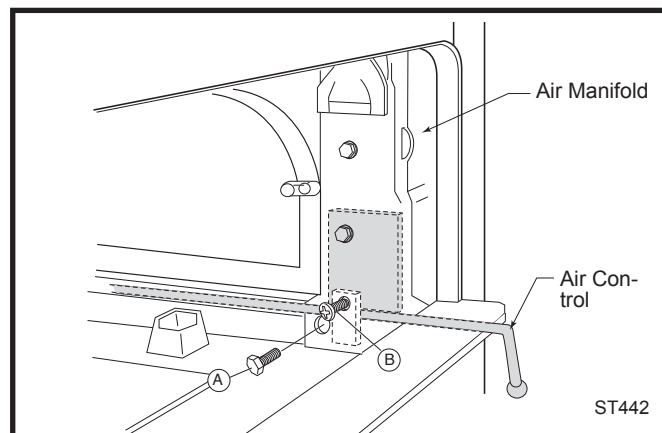

Fig. 25 Primary air control adjustment.
Over time, the air control may tighten or loosen. To adjust the tension on the control, let the stove cool to room temperature. Open the side-loading door and look in toward the inner side of the front panel of the stove. (Fig. 25) Locate the lower hex head bolt (A) on the primary air manifold, just inside the door. Remove the bolt with a open end or box end wrench to gain access to the adjustment screw (B) inside the manifold. Insert a Phillips screwdriver into that hole and turn the screw clockwise to increase tension, counterclockwise to decrease tension. Make adjustments in small increments and test the operation. Replace the hex head bolt when you are done.